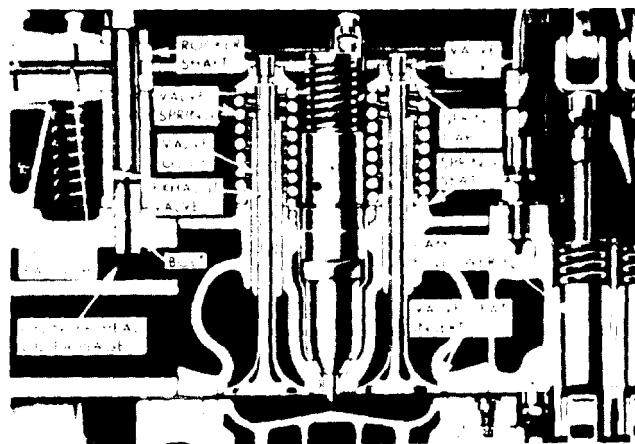

Figure 11B-50. Assembly of Exhaust Valves and Guides
7. Thread the valve spring compressor adaptor J 7455-1 into one of the rocker arm bracket bolt holes in the cylinder head (see Figure 11B-51 on page 11B-35). Then compress the valve spring and remove the two piece tapered valve lock.